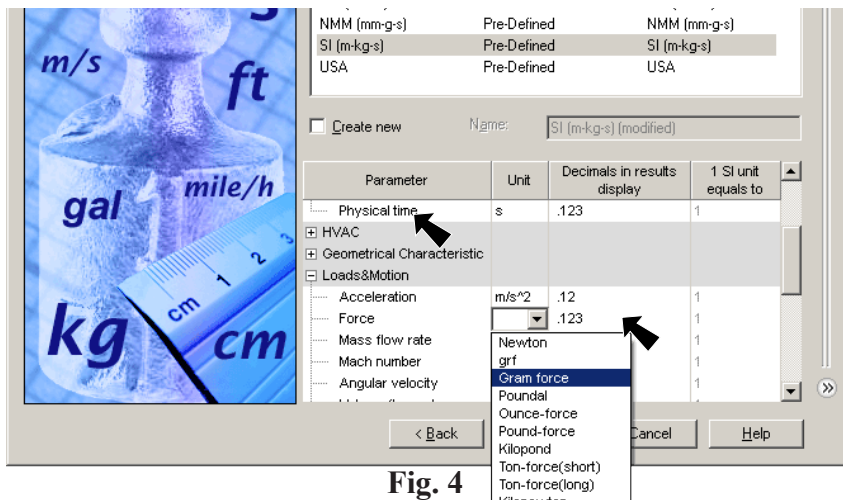

Fig. 4
Step 7. Expand **Loads & Motion** and set **Force** units to **Gram force**, Fig. 4. Gram force unit is p.